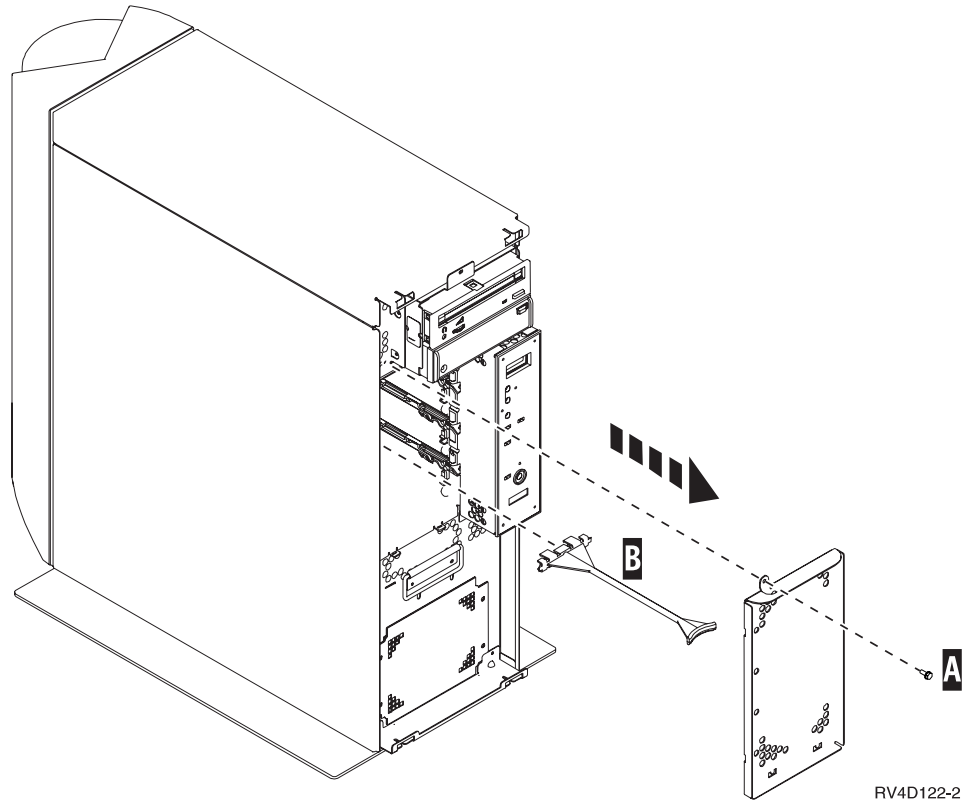

Figure 10. Remove Disk Unit Shield
- \_\_\_ 9. Remove either the base unit or expansion unit disk unit shield by removing the screw **A** (Figure 10 on page 13).